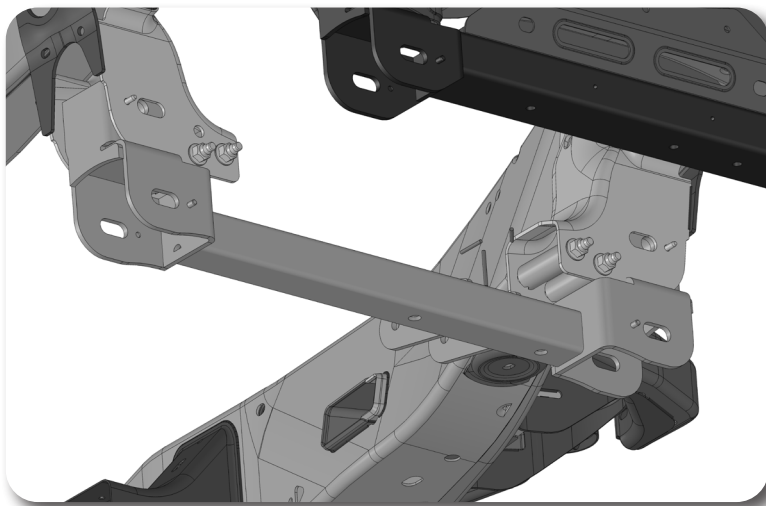

Figure 30
42. Install the new rear cross member with the provided longer 18mm bolt, prevailing torque nuts, and washers. The tabs on the cross member should align with the center differential bracket. Run the bolts from front to rear. Leave hardware loose. Fig. 30.